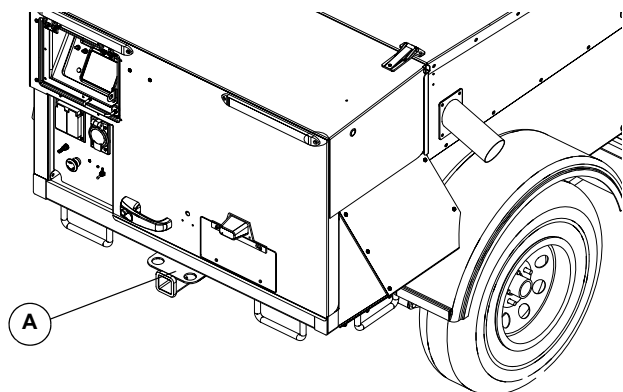

Figure 3-12. Tandem Tow Hitch
See Figure 3-12. The tandem tow hitch (A) allows the operator to tow a second MLT4060MVD Light Tower in series behind the unit. See Tandem Towing Safety in Section 1 for more information.